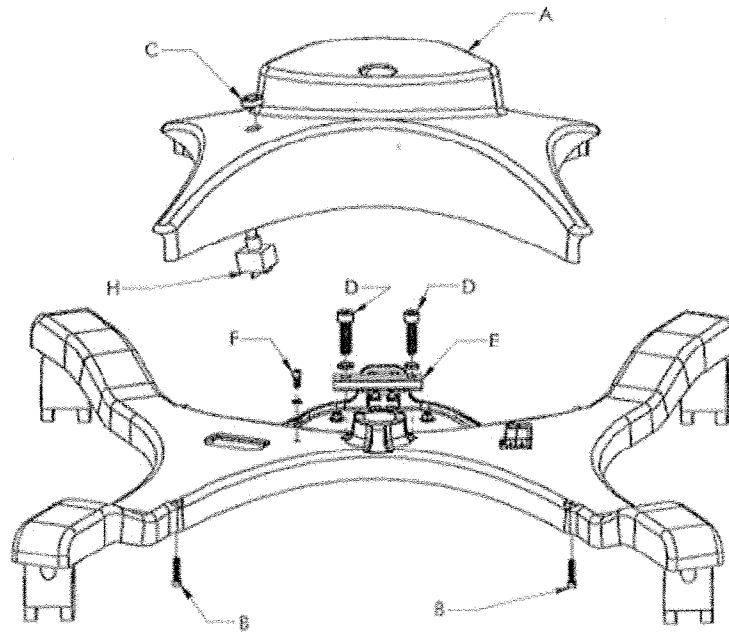

Figure 3: Stand Assembly
2. Using a 3mm Allen Key, remove four (4) x M4 screws (B) from the underside of the base to release the plastic cover. Place screws aside. Refer to Figure 3.
3. Remove the electrical switch nut (C) by unthreading it from the push button switch (H). Place it aside. Refer to Figure 3.
4. Carefully pull the bottom of the plastic cover over the power outlet. Remove the base cover (A). Refer to Figure 3.